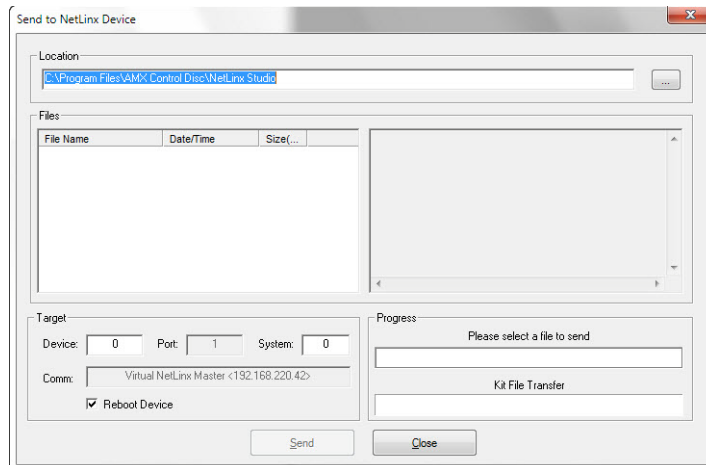

FIG. 21 Send to NetLinX Device dialog window
3. Select **Tools > Firmware Transfers > Send to NetLinX Device** from the main menu to open the *Send to NetLinX Device* dialog (FIG. 21). Verify that the panel's System and Device number values match those values listed within the System folder in the **OnLine Tree** tab of the Workspace window.